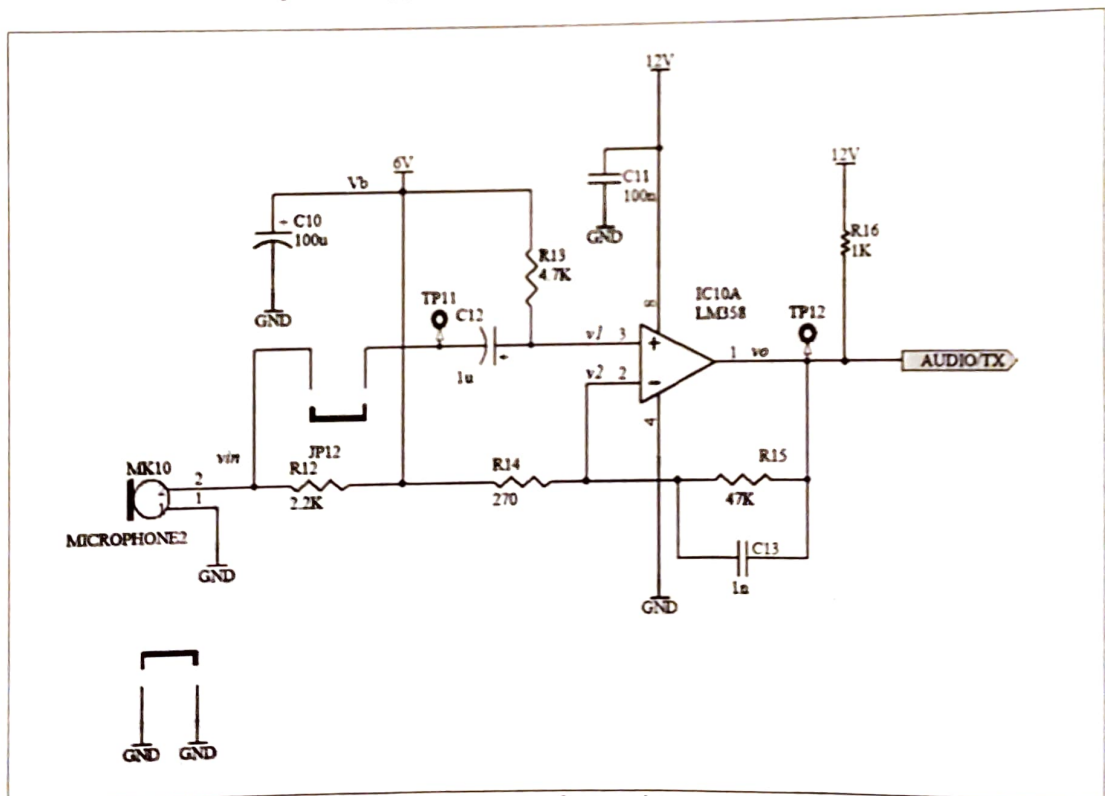

Figure 1: Schematic of microphone amplifier
1. Consider the TRC-11 microphone amplifier circuit shown in Fig. 1, making use of one of the two OPAMPs in LM358 integrated circuit. Since the OPAMP operates with a single supply voltage, the input DC voltages of the OPAMP should be shifted to a voltage somewhere between  $V_{CC}=+12V$  and GND. For this purpose, we use the regulated voltage,  $+6V$ . Therefore,  $+6V$  acts like a ground,  $+12V$  acts like the positive supply, and GND acts like the negative supply of the OPAMP.